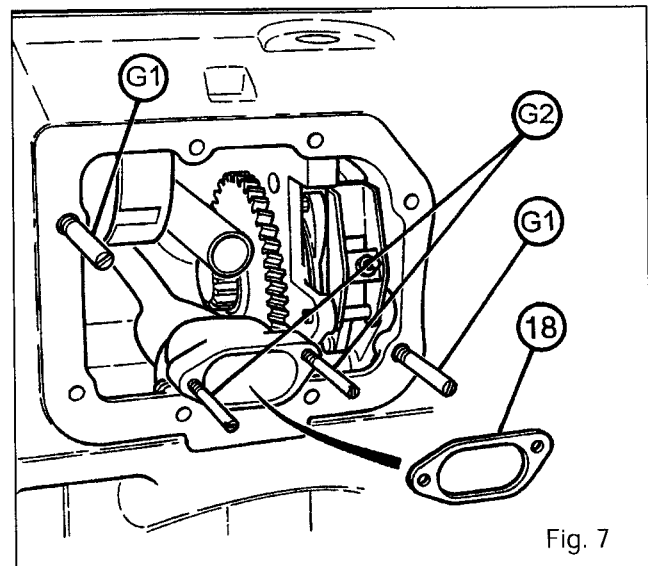

Fig. 7
9. Slide the gasket **(18)** on the guide dowels **G2**, with the face on the manifold side lightly smeared with silicone (Silicom type). Screw the two diametrically opposite guide dowels **G1** on the housing (Fig. 7).